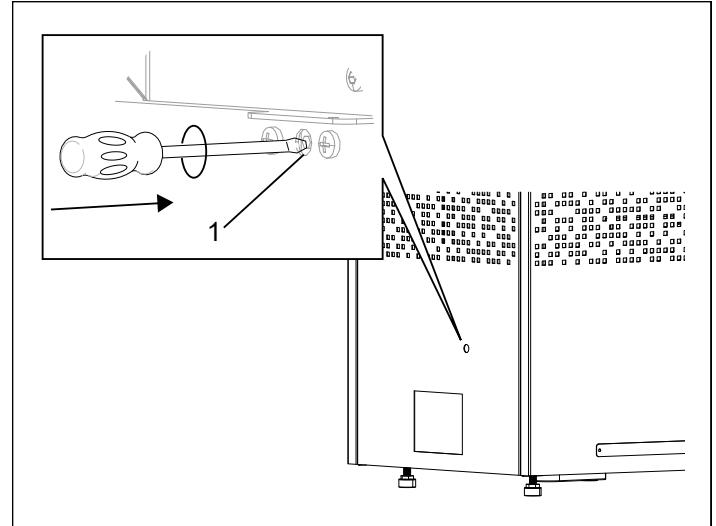

Figure 6: Resetting the temperature cut-out
• **Heater** - The temperature cut-out in the heater is there to protect the components, heating elements and woodwork in the sauna from overheating. On the left side, seen from front, there is a hole, use a slim object to reset the cut-out, see figure 6. If the cut-out has activated, the button will feel stiff and will 'click' when reset. If the cut-out has not activated and after resetting, the button will feel springy.